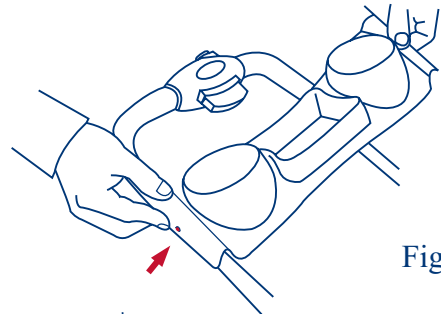

Fig. 6
- * To attach the parent tray, place one side of the tray on the stroller handle such that the button engages into the hole on the tray. Snap opposite side onto handle checking that the button engages into the hole on the tray. Please see figure 6.